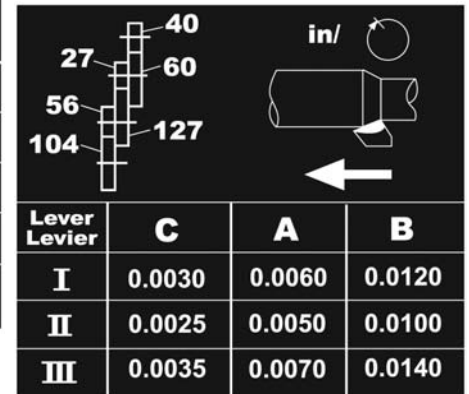
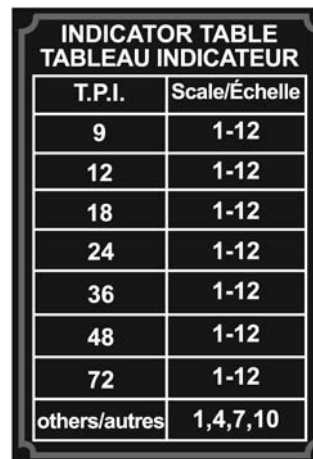
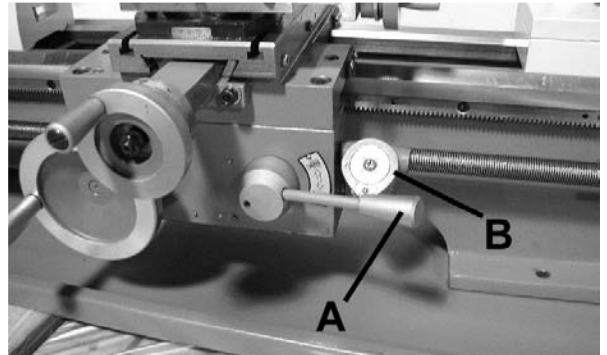

FIGURE 6- Feed Rate Chart
FIGURE 7- Thread Dial Indicator Chart
FIGURE 18
To obtain a desired feed rate, the correct gear configuration must be set as shown in "Feed Rate" chart Fig.6. The longitudinal auto-feed lever (A) Fig.18 is used to engage the half-nuts for longitudinal feeding of the carriage. This lever has 2 positions; the lower position engages the half-nuts to start longitudinal feed and the upper position disengages the half-nuts to stop longitudinal feed.
When cutting inch threads, the auto-power feed and thread cutting dial (B) Fig.18 are used. The threading dial Indicator chart Fig.7 specifies at which point a thread can be engaged using the threading dial.
The thread cutting dial (B) Fig.18 is used to engage the half nuts with the leadscrew in the same thread that has been previously cut. The threading dial Indicator chart Fig.7 specifies at which point a thread can be engaged using the threading dial.